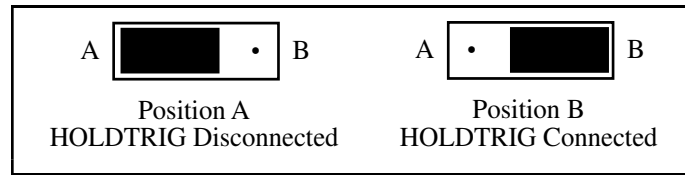

Figure E-2. Jumper W1
Jumper W1 on the adapter board is used to connect or disconnect the HOLDTRIG pin on the SCXI-1140 rear signal connector to the OUTB1 pin of the Lab board. If you want to source the HOLDTRIG signal from the data acquisition board, place the jumper in position A, the factory-default setting. If you want to source the HOLDTRIG signal externally, place the jumper in position B as shown in Figure E-2.
Use jumper W1 on the adapter board to connect or disconnect the HOLDTRIG pin on the SCXI-1140 rear signal connector to or from the OUT2 pin of the PC-LPM-16. If you want to source the HOLDTRIG signal from the data acquisition board, place the jumper in position A, which is the factory default. If you want to source the HOLDTRIG signal externally, place the jumper in position B, as shown in Figure E-2.
3. Connect the rear connector of the cable extender to the breakout connector in the adjacent slot. This attachment is similar to Step 3 in the *SCXI-1180 Installation* section, as shown in Figure E-2.